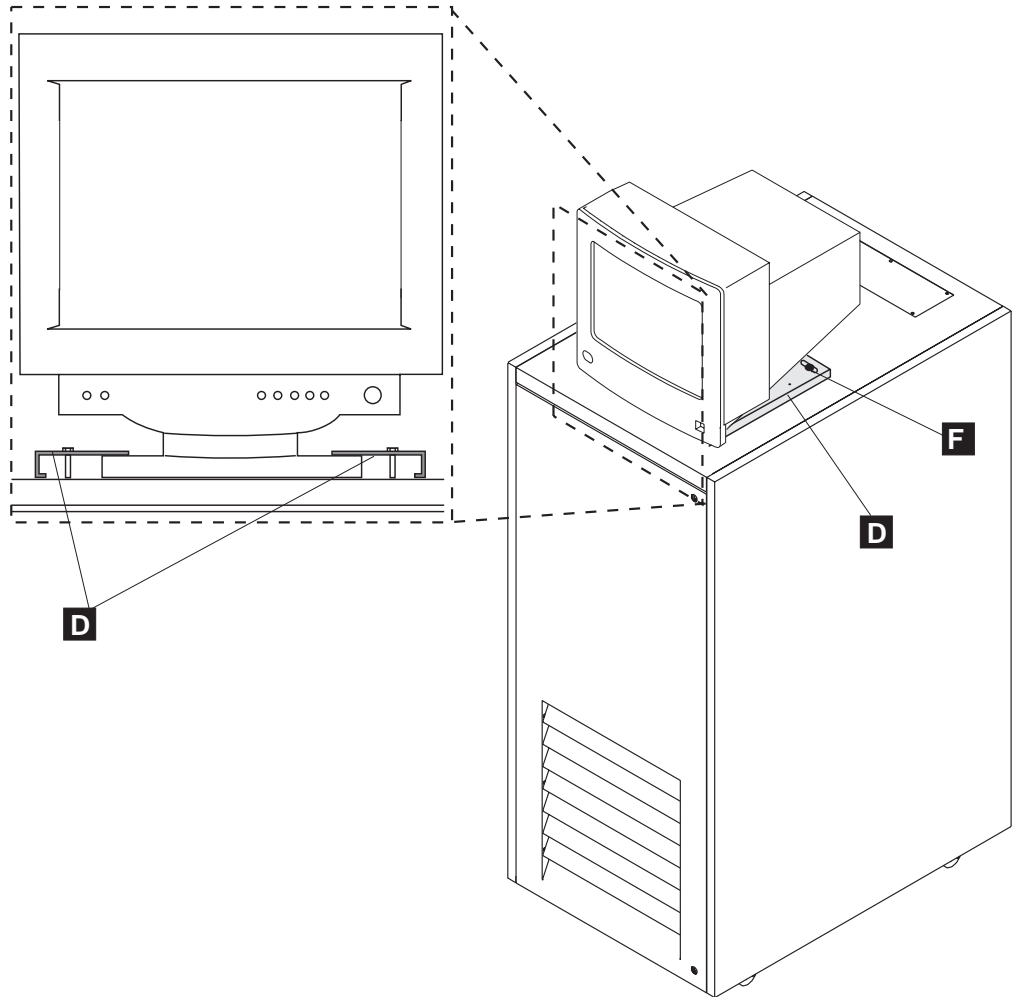

Figure 6-7. Display Installation on Top of 29U Rack
- b. Slide the pedestal display under the safety retainers (see Figure 6-7 on page 6-6).